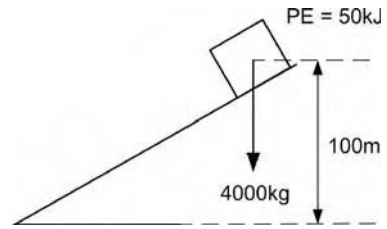

Figure 4.145 Diagram showing vehicle.
56. Figure 4.145 shows a vehicle of mass 4000 kg, sitting on a hill 100 m high, having a potential energy of 50 kJ: [B1, B2]